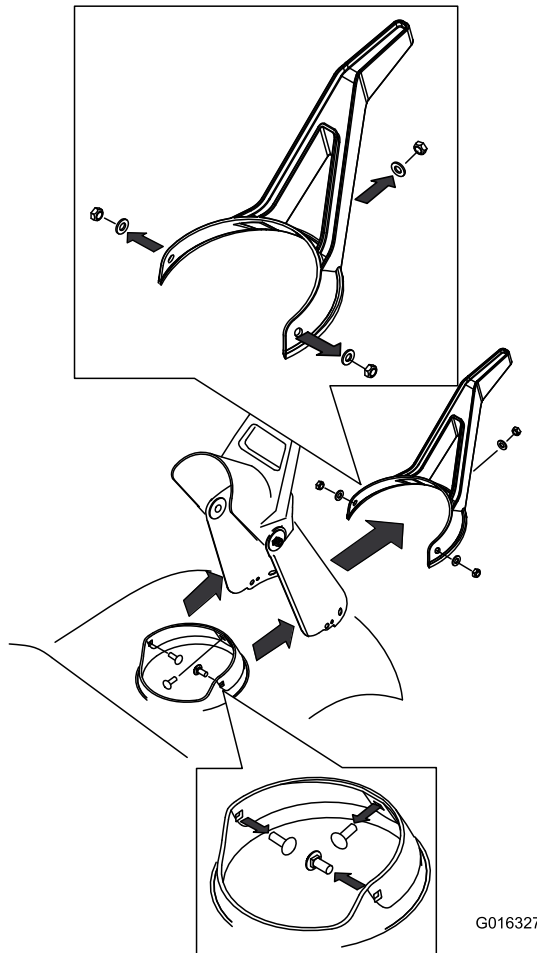

Figure 30
3. Remove the discharge chute by removing the 3 screws holding the chute, and the screws holding the chute seal (Figure 30).